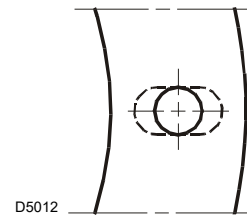

Fig. 8
- if necessary, widen the insulating gasket holes (Fig. 8), taking care not to damage them.